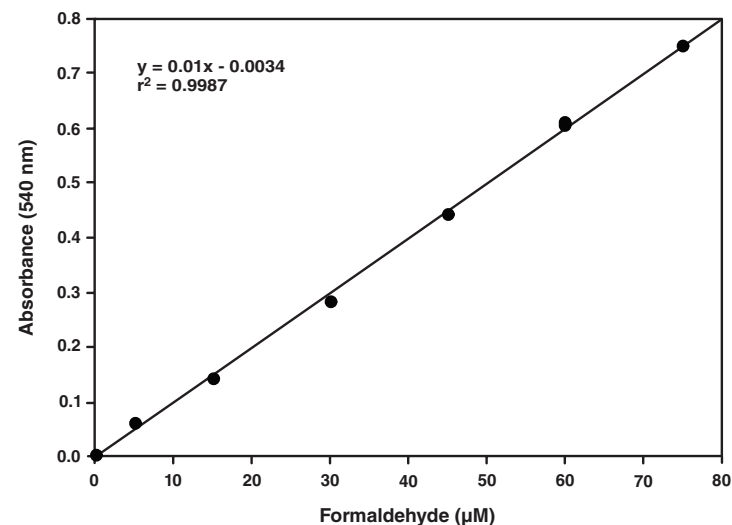

Figure 2. Formaldehyde standard curve
3. Plot the corrected absorbance of standards (from step 2 above) as a function of final formaldehyde concentration (μM) from Table 1. See Figure 2 for a typical standard curve.